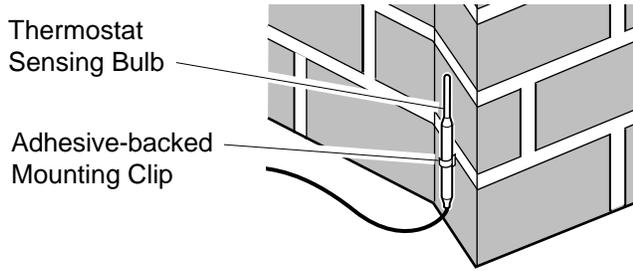

Figure 38 - Locating Thermostat Sensing Bulb on Masonry Fireplace
4. The thermostat sensing bulb may be located to the lower right front side of fireplace. Determine location of sensing bulb, but do not mount sensing bulb until step 5. If you have a masonry fireplace, see Figure 38 on page 33 for location.